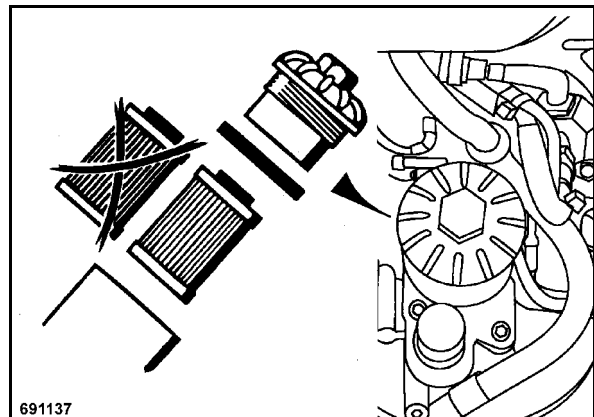

Fig. 66
- Unscrew the cover (Fig. 66).